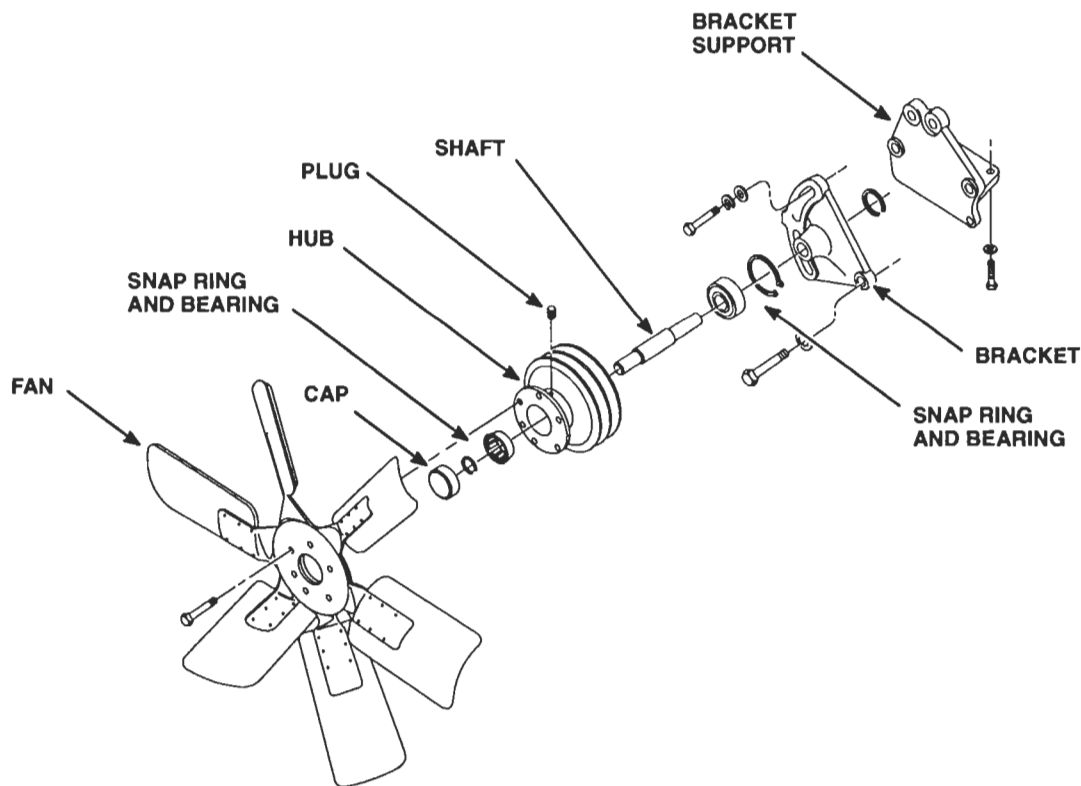

Figure 2. Fan Hub and Adjusting Bracket Components
1. Remove the fan attaching bolts and lock washers and detach the fan and the spacer (if used) (Figure 2.)